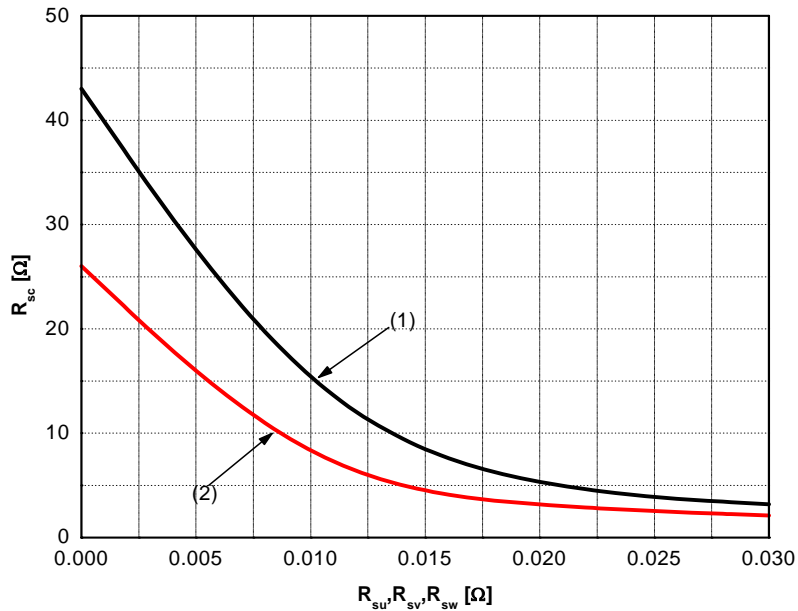

Figure 6. R_{sc} Variation by Change of Shunt Resistors (R_{su} , R_{sv} , R_{sw}) for Short-Circuit Protection
- Short-circuit protection is functioning only at the low-sides. It would be recommended that the value of the external sensing resistor (R_{SC}) should be selected around 26 Ω in order to make the SC trip-level of about 100A at the shunt resistors (R_{SU}, R_{SV}, R_{SW}) of 0 Ω . For the detailed information about the relationship between the external sensing resistor (R_{SC}) and the shunt resistors (R_{SU}, R_{SV}, R_{SW}), please see Figure 6.